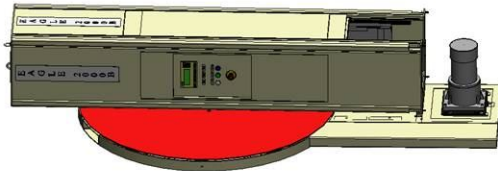

Fig 2-4
2. Remove lower rear panel prior to lifting mast. This panel is located on the end of the machine next to the turntable motor. (Fig 2-4) The panel has a sticker on it (Fig 2-4a)